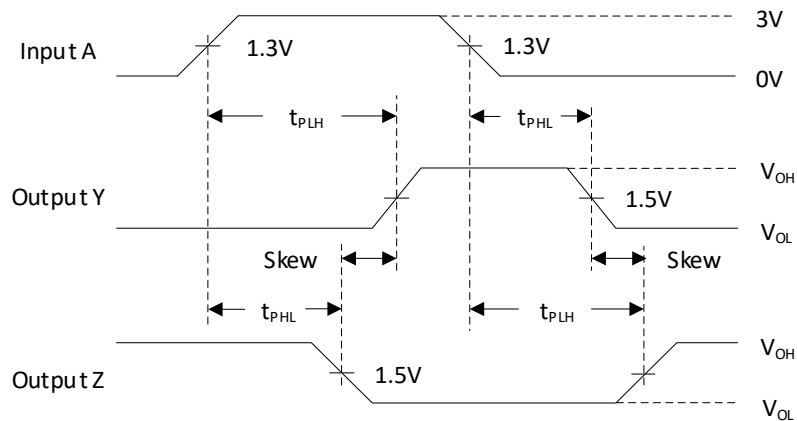

Figure 2. Propagation Delay Time and Skew Time
- Test propagation delay time and skew time. It needs to open S1 and S2. The corresponding test waveform is shown in figure 2.